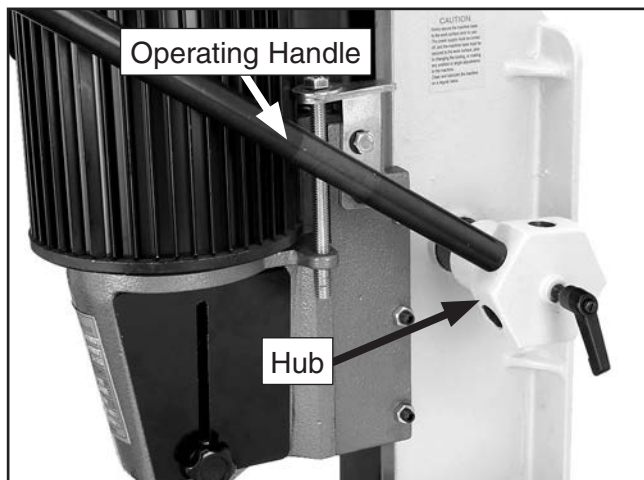

Figure 10. Operating handle.
3. Slide the operating handle into the hub shown in **Figure 10** and tighten the lock handle.